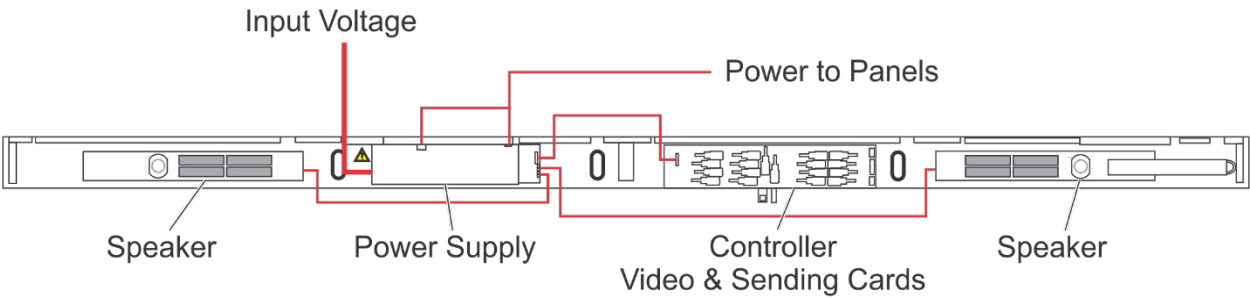
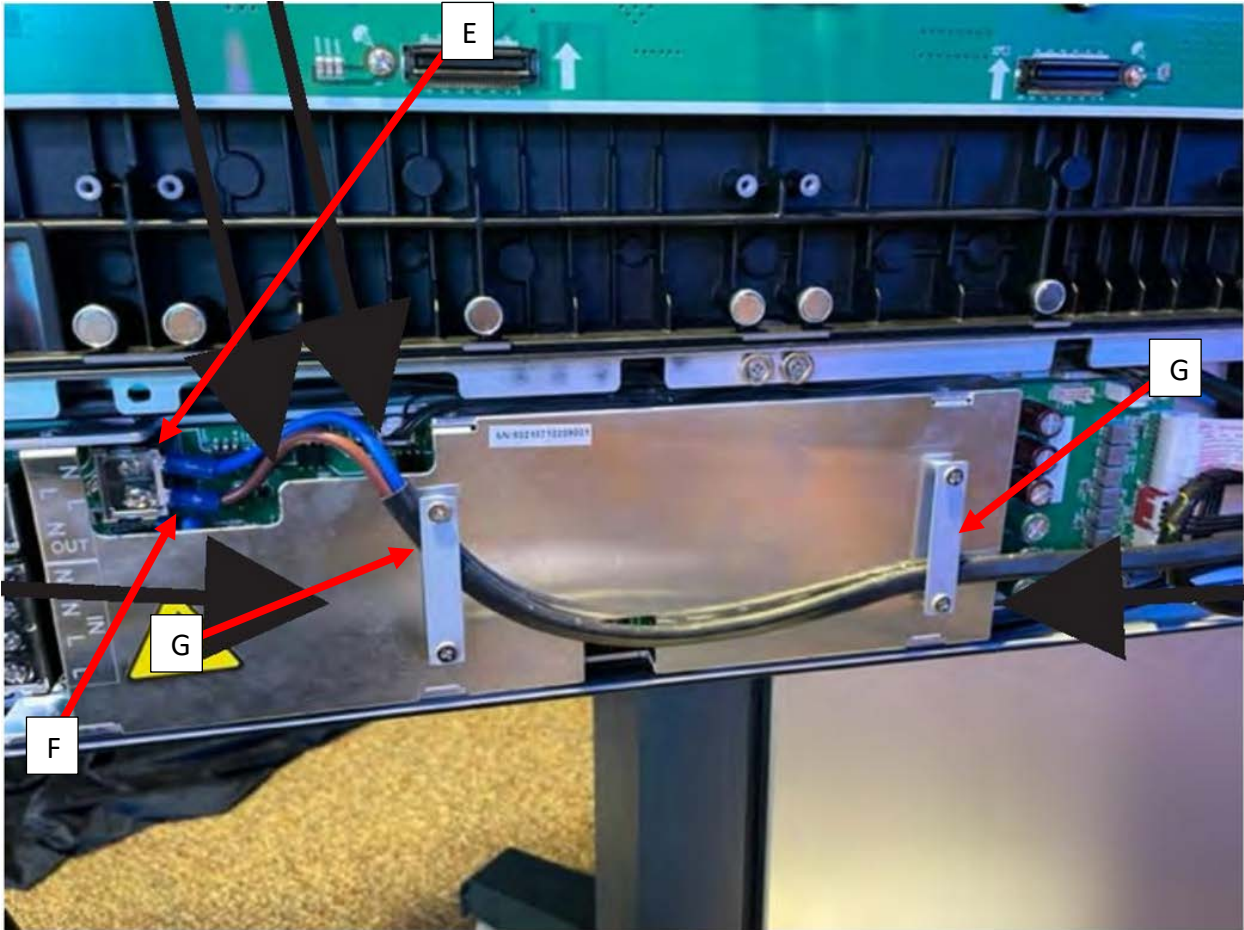
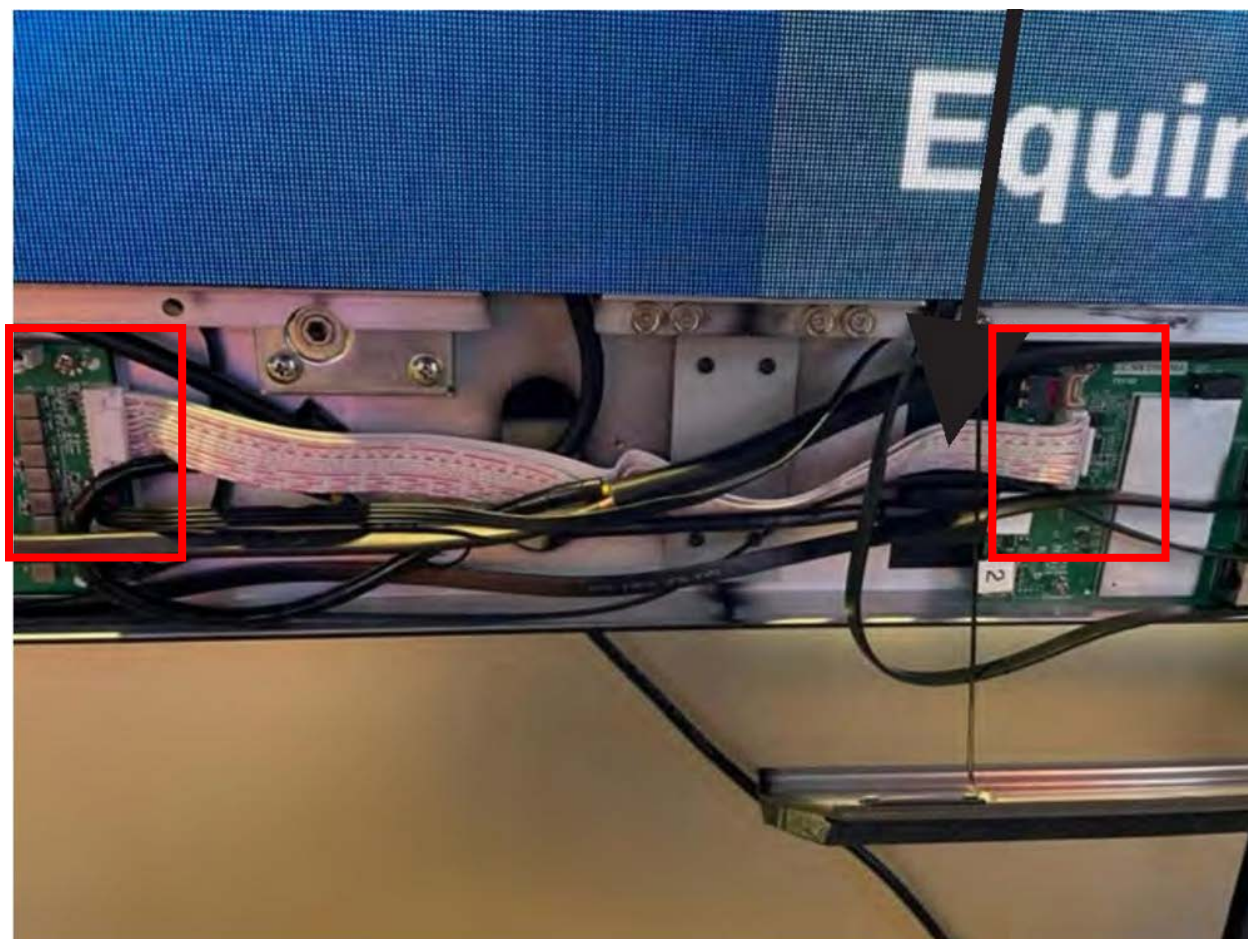

Figure 16: Location of Sound Bar Components & Power Distribution
Figure 17
Figure 19
4. Route the Blue (E) and Brown (F) Power Cable from the right lower bar to the left, behind the two plates (G) as shown as shown in Figure 16 and Figure 17. Make the connection as follows.
6. Connect the ribbon cable shown in in Figure 16 and Figure 19.